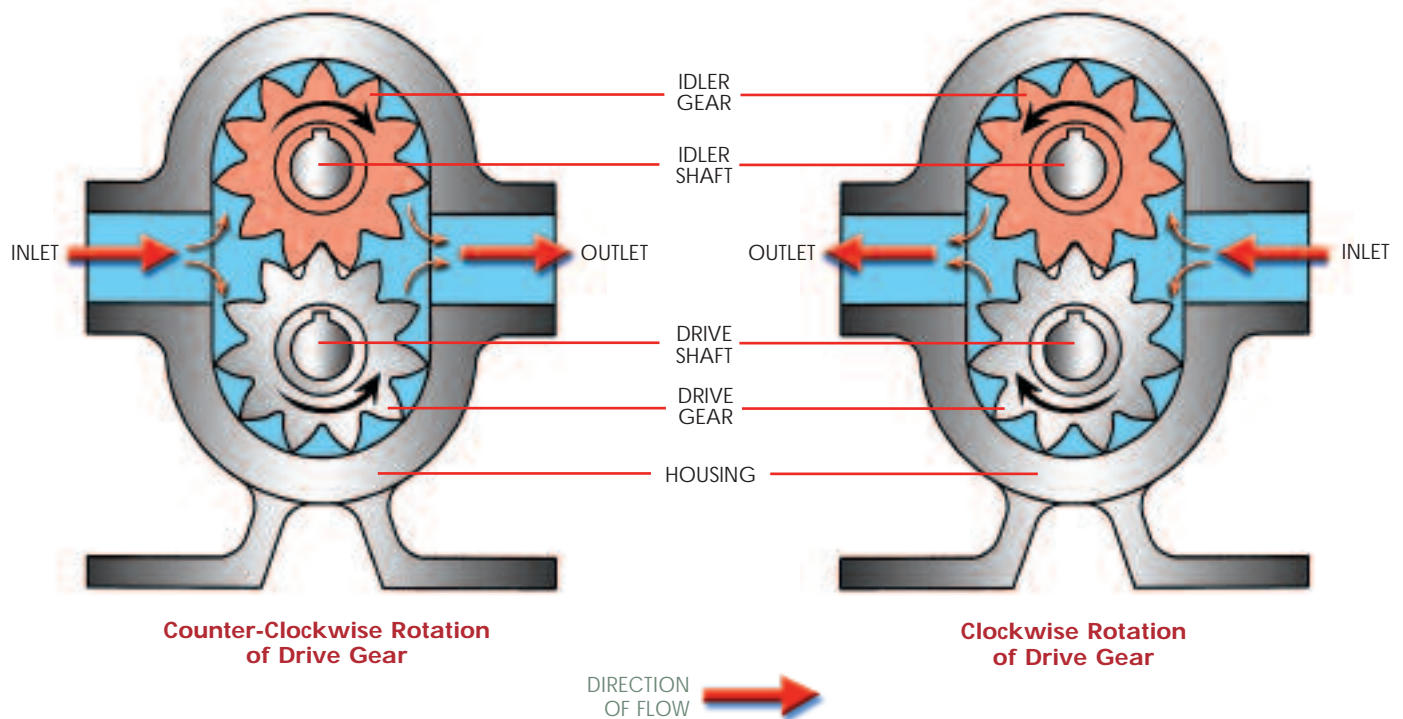

Figure 1: Cross-sectional views of external gear pump demonstrating operating principle.
The working principle of the external gear pump is illustrated in **Figure 1**. A drive gear (that is driven by a motor) rotates an idler gear in the opposite direction. When the gears rotate, the liquid, which is trapped in the gear teeth spaces between the housing bore and the outside of the gears, is transferred from the inlet side of the pump to the outlet side. It is important to note that *the pumped liquid moves around the gears and not between the gears*. The rotating gears continue to deliver a fresh supply of liquid from the suction (inlet) side of the pump to the discharge (outlet) side of the pump, with *virtually no pulsations*. The meshing
**Figure 1** also shows that the direction of rotation of the drive gear determines the direction of flow thru the pump, and which side of the pump is the inlet and which side is the outlet. If the direction of rotation of the motor (and therefore the drive gear) is reversed, the direction of flow thru the pump will also reverse. This *bi-directional flow characteristic* is one of the many advantages inherent to gear pumps.